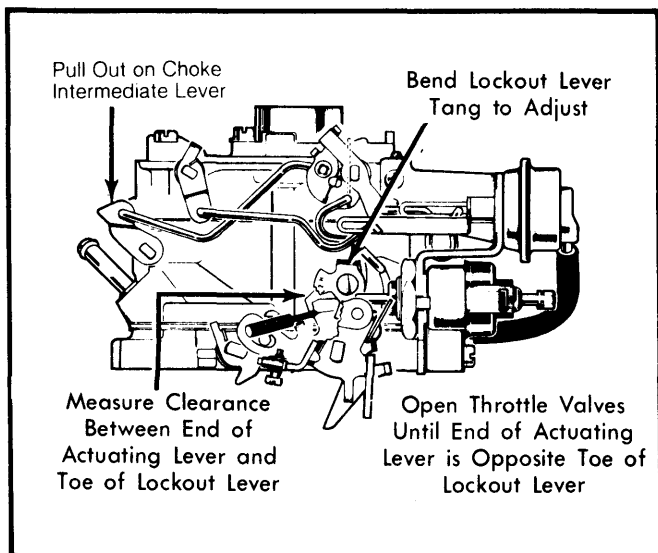

Fig. 9 Adjusting Secondary Throttle Lockout
- 1) Hold choke valve wide open by pulling out on choke intermediate lever. See Fig. 9.